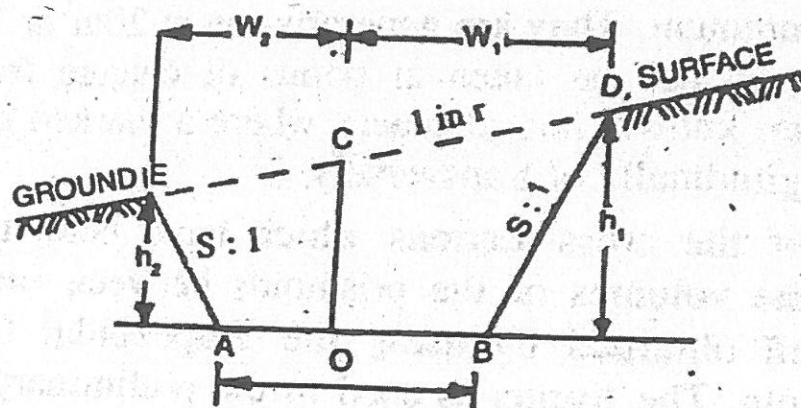

Fig. 12.1.
Notations., Refer fig. 12.1.
2. **Two-level Section.** (Fig. 12.1). In this case, the ground is sloping transversely, but the slope of the ground does not intersect the formation level.